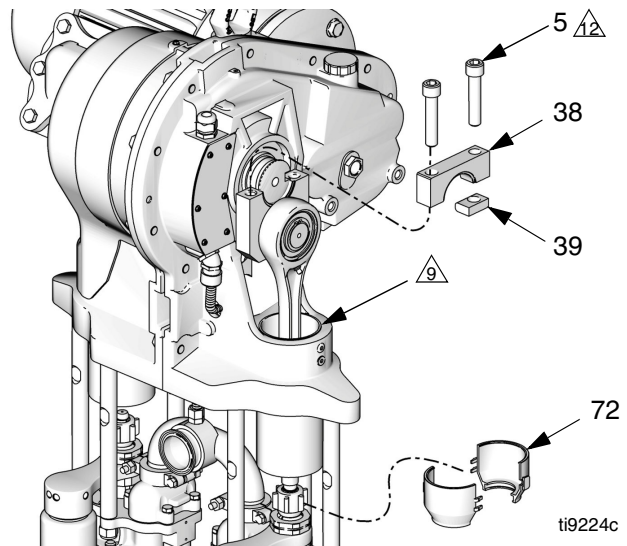

FIG. 15. Remove Crank Arm Cap
5. Place a clean rag over the top of the slider cylinder (2) to prevent debris from falling into the slider assembly during disassembly.
6. Remove the 2-piece shield (72) by inserting a screwdriver straight into the slot, and using it as a lever to release the tab. Repeat for all tabs. **Do not** use the screwdriver to pry the shields apart.
7. Place a 3/4 in. wrench on the slider piston (9) flats (just above the coupling nut), to keep the slider piston/connecting rod from turning when you are loosening the coupling nut (14). Orient the wrench so it is braced against one of the tie rods (3). Applying excessive force to the slider piston/connecting rod can shorten the life of the lower pin bearing.
8. Using a 1-5/8 in. open-end wrench, unscrew the coupling nut (14) from the slider piston (9) and let it slide down onto the pump piston rod. Be careful not to lose the collars (13).
9. See FIG. 15. Using a 1/2 in. hex driver, unscrew the two cap screws (5). Remove the crank arm cap (38) and key (39). If necessary, use a plastic hammer to break these parts loose.
14. Slide the piston (9) and connecting rod (7) into the cylinder (2).
15. Position the crank arm (4) to engage the output shaft (OS), and rotate it to the bottom of the output shaft.
16. Place a clean rag over the top of the slider cylinder (2) to prevent debris from falling into the slider assembly during reassembly.
17. See FIG. 15. Apply antiseize lubricant (LPS[®]-04110 or equivalent) to the threads of the cap screws (5). Install the key (39), crank arm cap (38), and cap screws (5), oriented as shown. While the gap-side screw is still loose, torque the key-side screw to 210-230 ft-lb (283-310 N•m). Then torque the gap-side screw to 210-230 ft-lb (283-310 N•m). Torque screws an additional 2-3 times each, or until they stop turning when torqued to 210-230 ft-lb (283-310 N•m).
18. Ensure that the collars (13) are in place in the coupling nut (14).
19. Place a 3/4 in. wrench on the flats of the slider piston (9), to keep it from turning when you are tightening the coupling nut (14). Orient the wrench so it is braced against one of the tie rods (3) or the pump stand. Tighten the coupling nut (14) onto the slider piston (9) and torque to 75-80 ft-lb (102-108 N•m).
20. Install the shields (72) by engaging the bottom lips with the groove in the wet-cup cap. Snap the two shields together.
21. Remove the rag. Reinstall the cover (32 or 21) and screws (12).